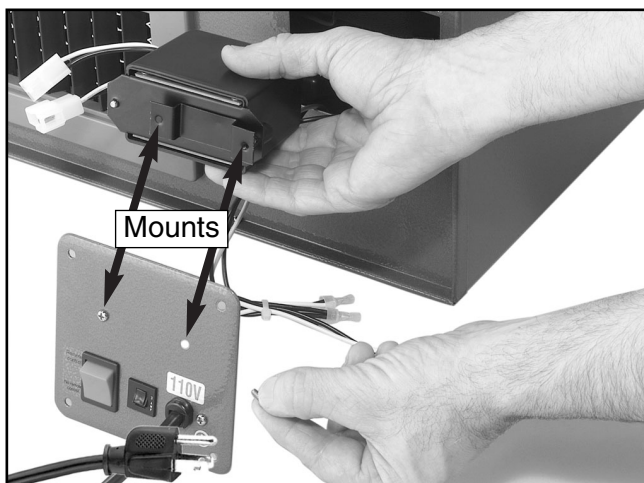

Figure 3. Mounting remote control receiver.
3. Attach the remote control receiver to the switch panel using the 2 screws and nuts provided. Please refer to **Figure 3**.